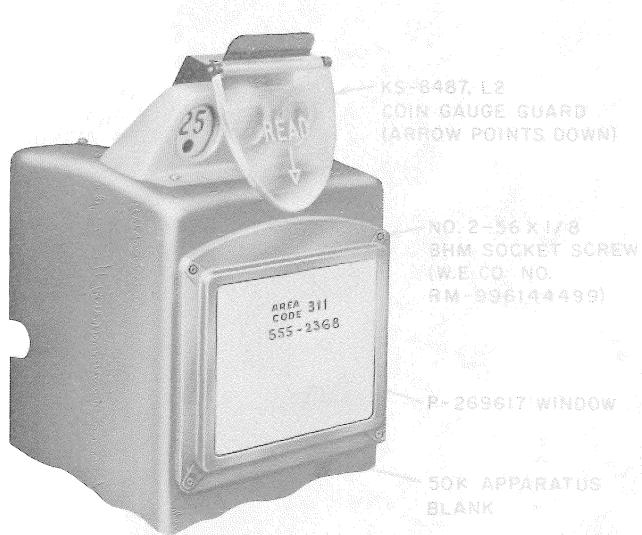
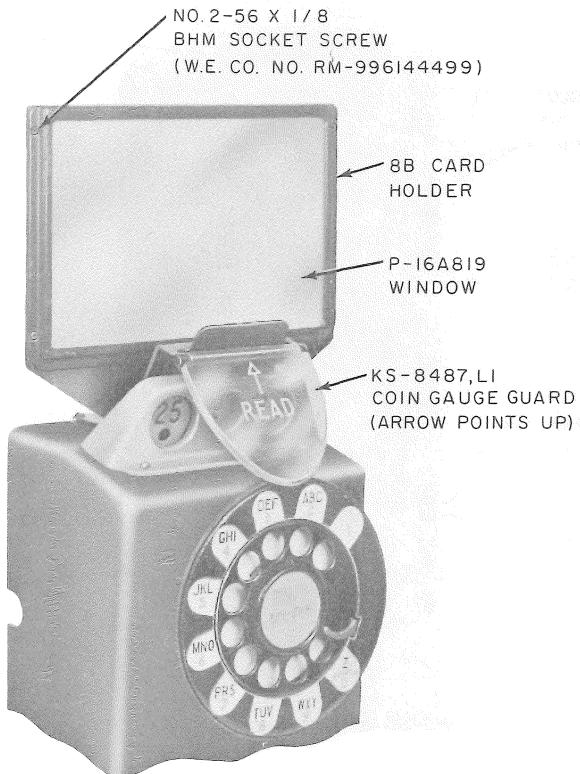

Fig. 8—Manual Type Coin Collector Equipped With Coin Gauge Guard
Fig. 9—Dial Type Coin Collector Equipped with Coin Gauge Guard
- 2.11** The 50-type apparatus blank covers the dial cup on manual coin collectors (Fig. 8).
- 2.13** The 8-type card holder mounts on top of the housing behind the coin gauge (Fig. 9). Three P-81J700 slotless machine screws, three #900054727 hex nuts, and three P-423631 lockwashers hold the card holder in place.
- 2.15** Postpay coin collectors without coin-release pushbutton mechanisms may be equipped with a KS-8487, List 1 coin gauge guard (Fig. 9) or a KS-8487, List 2 coin gauge guard (Fig. 8). Coin gauge guards are designed to alert the customer to read the instructions before depositing coins. The device consists of a mounting bracket and a transparent hinged guard with the word READ and a vertical red arrow. The guard must be raised before depositing coins.